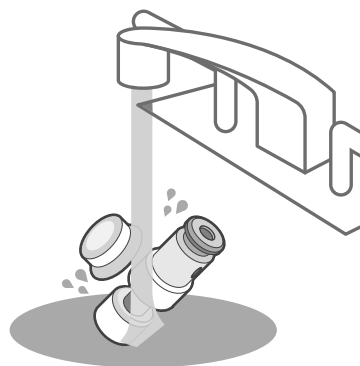

Figure 10.4
- d. Rinse both parts with clean water, and secure the float valve back onto the lid using the float valve silicone cap. [Figure 10.4]